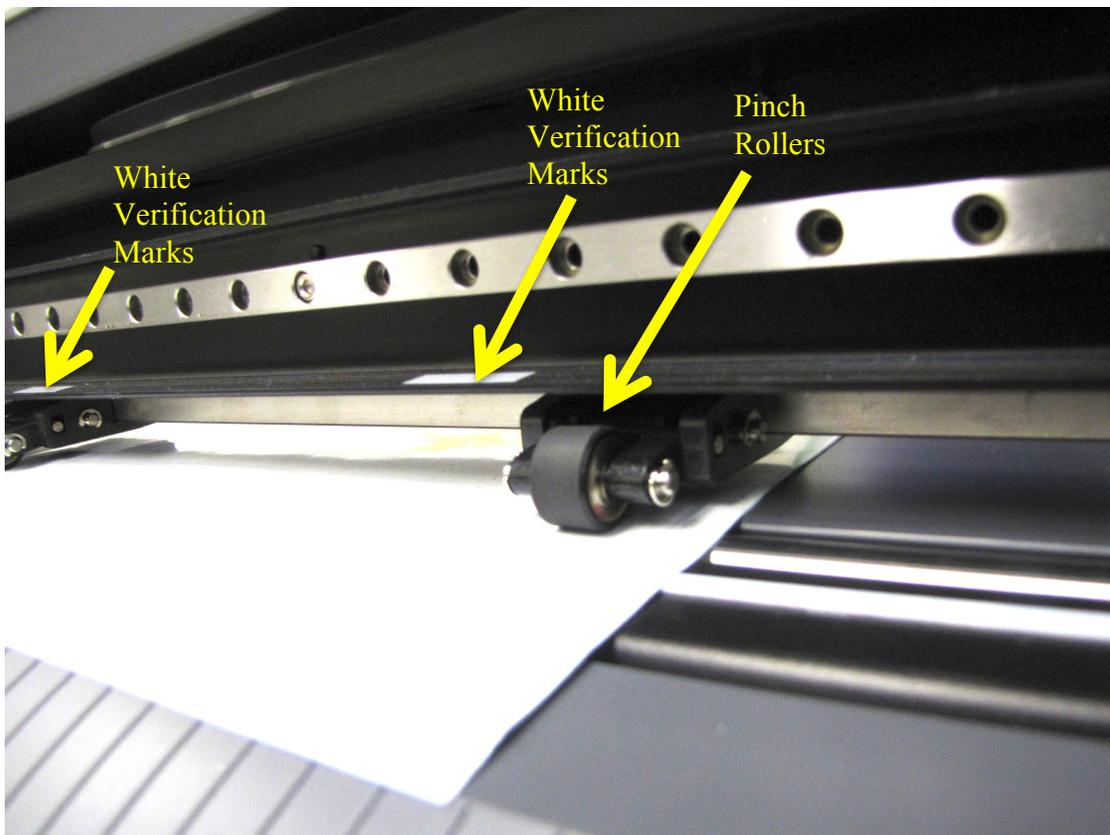

Figure 10: Pinch Rollers & Verification Marks
13. Depending on the width of your material, **ALIGN** the **LEFT EDGE** and **RIGHT EDGE** of the material within the boundaries of two white marks, called the **VERIFICATION MARKS** (Figure 10).